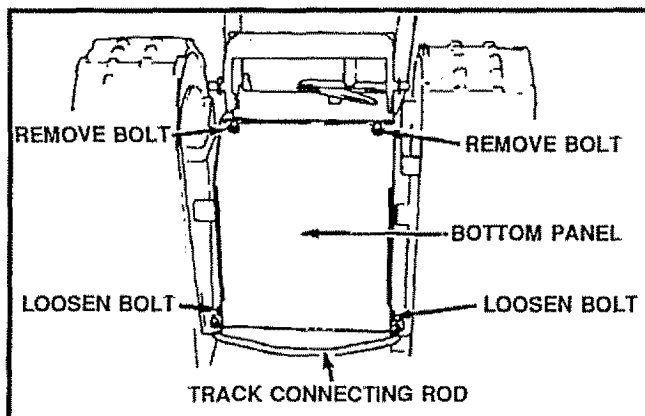
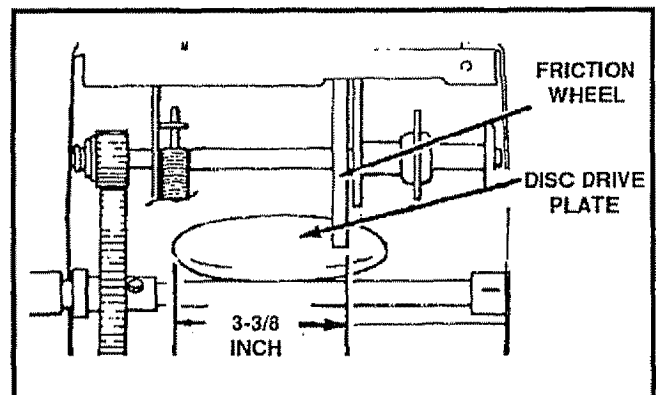

FIG. 29
FIG. 30
- Remove the bottom panel (See Fig. 29).
- Position the shifter lever in first (1) gear.
- Note the position of the friction wheel on the disc drive plate. The right side of the friction wheel should be  $3-3/8$ " from the left outer side of the disc drive plate (See Fig. 30).